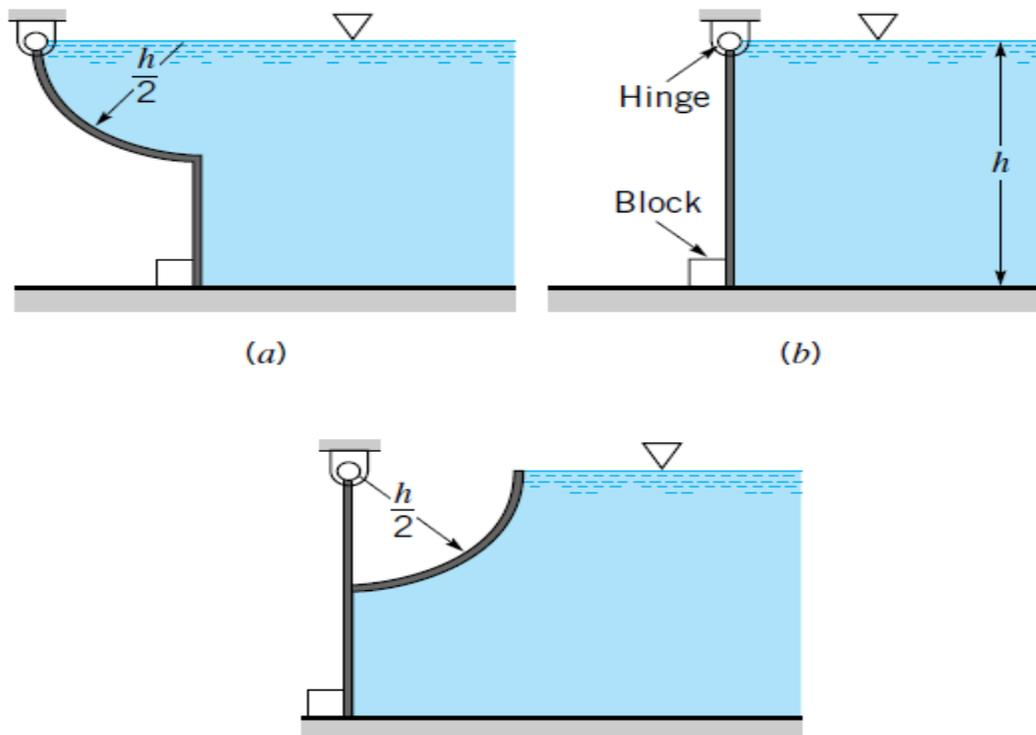

Fig. 11
13. Three gates of negligible weight are used to hold back water in a channel of width b as shown in Fig. 11. The force of the gate against the block for gate (b) is R . Determine (in terms of R) the force against the blocks for the other two gates.